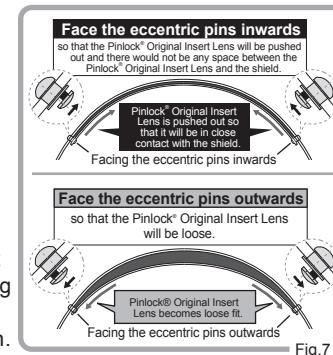

Fig.7
- Adjust the eccentric pins by turning them with a tool. (Fig. 7)